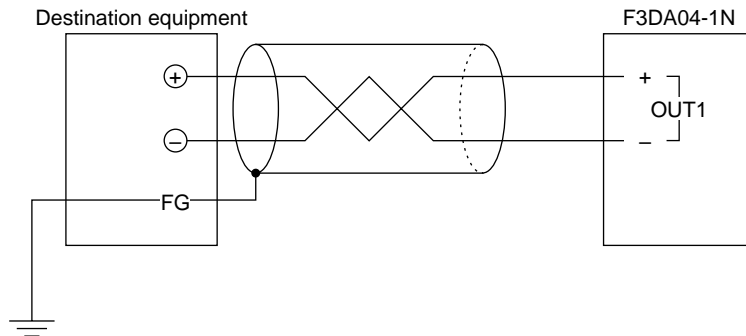

Figure 3.13 Wiring Diagram
- (1) Use a shielded twisted-pair cable to connect the F3AD04-1N module to the destination equipment.
- (2) Ground the shielding wire of the twisted pair cable at the destination equipment as Figure 3.13 shows.